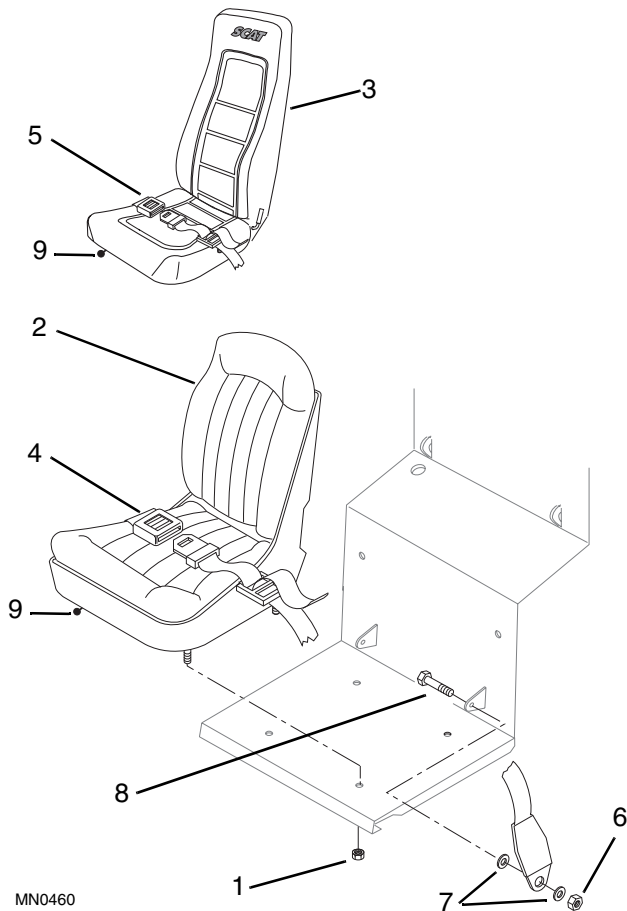

Figure 9-94 Seat Mounting
2. Remove and discard four hex elastic locknuts (Fig. 9-94, 1).
3. Remove the standard seat assembly (Fig. 9-94, 2), or optional deluxe seat assembly (3).
4. Remove seat belt (Fig. 9-94, 4 or 5) by removing hex elastic locknuts (6), two washers (7), and capscrews (8) from the belt mount on each side. Discard the capscrews (8) and hex elastic locknuts (6).
1. Inspect seat belts (Fig. 9-94, 4 or 5) for rips and frayed ends. Check that the seat belt latch works properly.
2. Inspect the seat adjuster (Fig. 9-94, 9) for proper operation.
1. Replace the seat belt (Fig. 9-94, 4 or 5) by installing a new capscrew (8) through each tab on the seat platform, followed by a washer (7), seat belt (4 or 5), washer (7) and new hex elastic locknut (6).
2. Install the seat assembly (Fig. 9-94, 2 or 3), and secure with four new hex elastic locknuts (1).